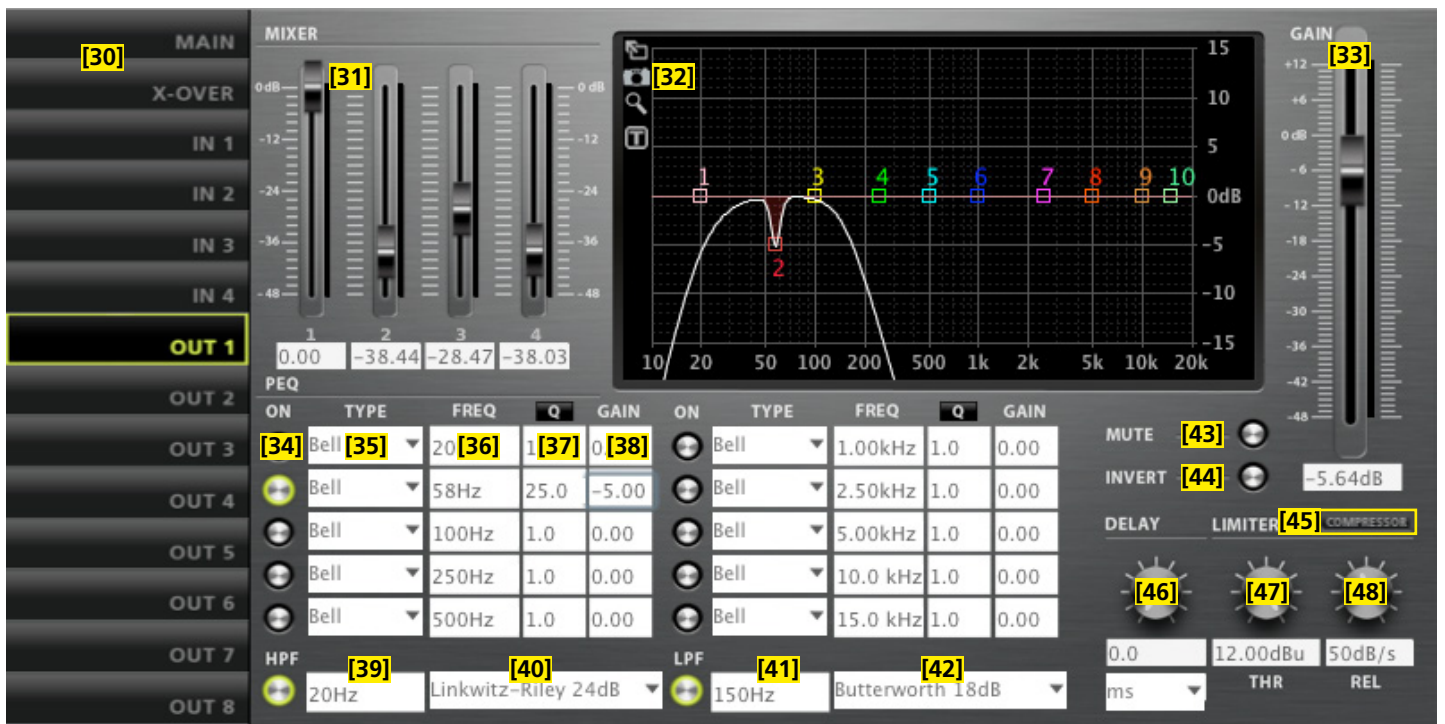

Fig. 19 View OUT 1, DSM-48...
7.3.4 View OUT 1–6/8 (fig. 19)